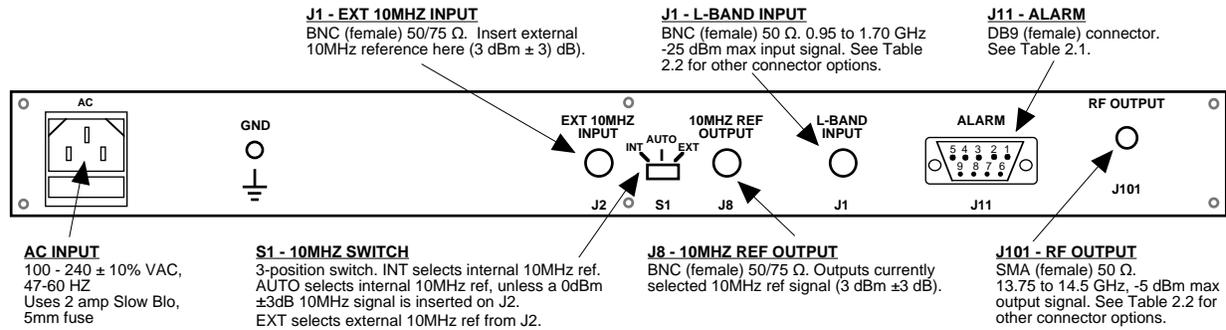

FIGURE 2.1 2115-137 Rear Panel I/O's
2.2 Rear Panel Input/Output Signals - Figure 2.1 shows the input and output connectors on the rear panel.
1. Connect a -40 dBm to -15 dBm signal to L-BAND INPUT, J1 (Figure 2.1).
5. Select either INT (for internal 10MHz ref), AUTO (for internal 10MHz ref UNLESS a external 10MHz, +3 dBm signal is connected to J2), or EXT (for external 10MHz, +3 dBm ref that is inserted at J2) on rear panel switch S1 (Figure 2.1).
7. Check that a 10MHz, +3 dBm \pm 3 dB signal is present at the 10MHZ REF OUTPUT (J8) (Figure 2.1).